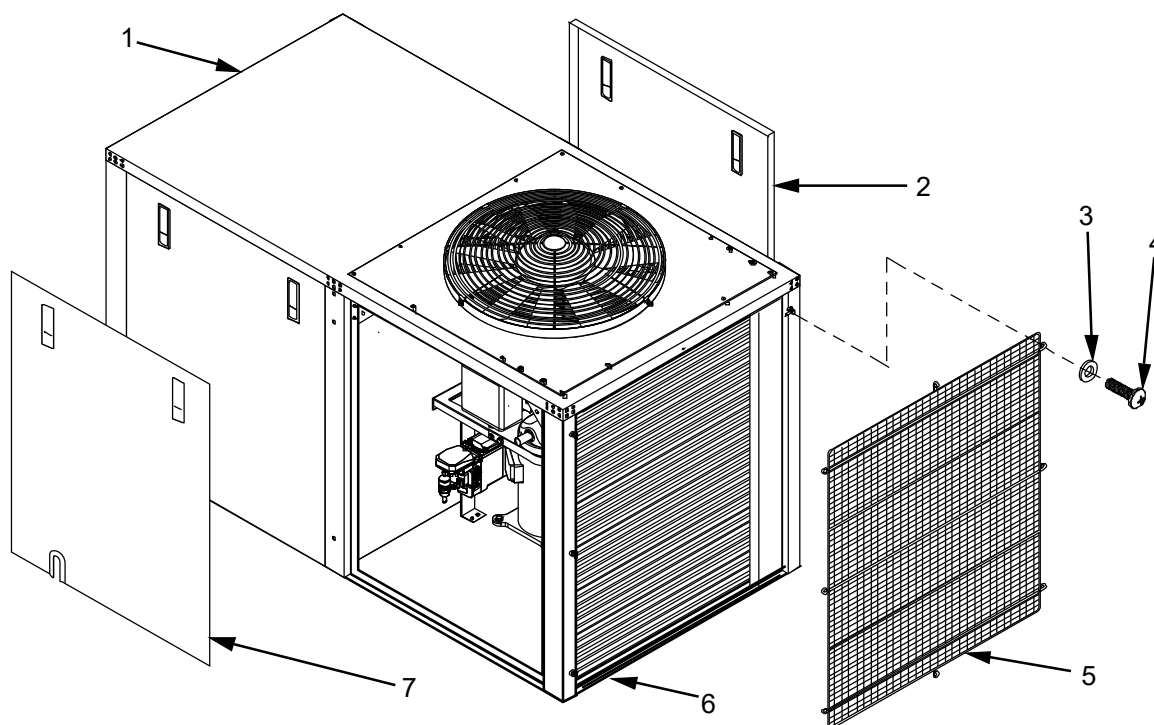

Figure 9. Condenser Coil Cleaning.
1. Verify that ECU (Figure 9, Item 1) has been shut down in accordance with ECU Shut Down Procedure (WP 0005).
2. Unlatch and remove rear access panel (Figure 9, Item 2) and forward access panel (Figure 9, Item 7) from ECU.
3. Remove and retain eight screws (Figure 9, Item 4) and eight washers (Figure 9, Item 3) that secure ECU condenser coil grill (Figure 9, Item 5) to the ECU (Figure 9, Item 1).
4. Remove and retain condenser grill (Figure 9, Item 5) and set aside.
5. Using low pressure air, blow debris from the inside of condenser chamber (Figure 9, Item 6) outwards.
7. If necessary, clean condenser coil (Figure 9, Item 6).
8. Allow inside of condenser chamber (Figure 9, Item 7) to dry completely before replacing rear access panel (Figure 9, Item 2) and forward access panel (Figure 9, Item 7) covers.
9. Coat eight screws (Figure 9, Item 4) with sealing compound.
10. Install ECU condenser grill (Figure 9, Item 5) and secure using eight screws (Figure 9, Item 4) and eight washers (Figure 9, Item 3).
2. Remove and retain eight screws (Figure 9, Item 4) and eight washers (Figure 9, Item 3) that secure ECU condenser grill (Figure 9, Item 5).
3. Remove condenser grill (Figure 9, Item 5) and set aside.
1. Coat eight screws (Figure 9, Item 4) with sealing compound.
2. Position condenser grill (Figure 9, Item 5) on to ECU.
3. Secure condenser grill (Figure 9, Item 5) to ECU using eight screws (Figure 9, Item 4) and washers (Figure 9, Item 3).